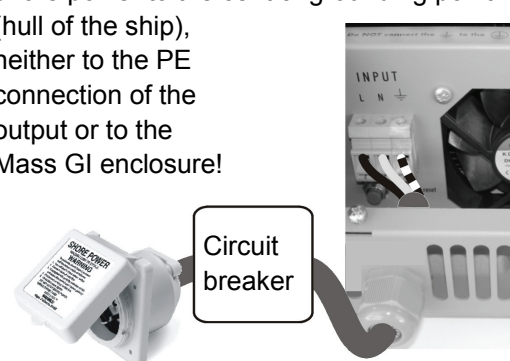

Figure 17
3. Connect the incoming shore power to the AC input on your Mass GI's. Phase line to L, Neutral to N, and Ground to PE (figure 17).